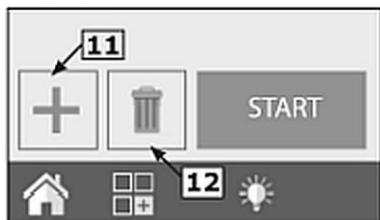

Fig. 19
1. After setting the parameters for the initial phase (thermal processing phase 1), press '+' key (11, Fig. 19) to create a subsequent thermal processing phase.
4. At the end of programming, press START (Fig. 19) to start thermal processing.
5. To delete a thermal processing phase, press 'Remove phase' key (12, Fig. 19).